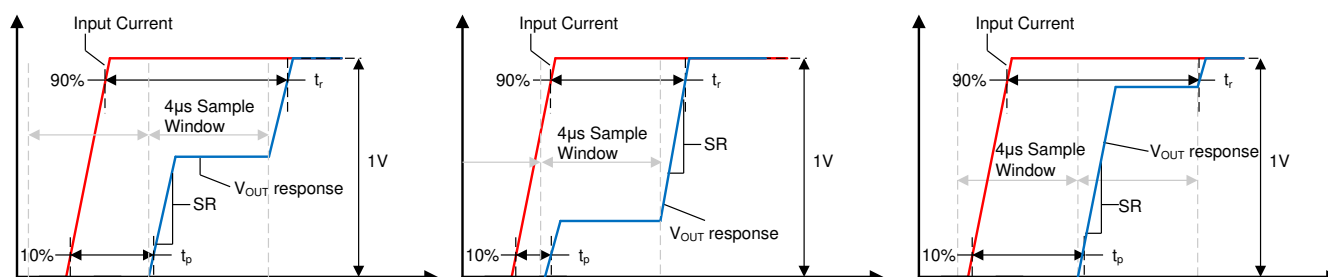

图 8-3. Small Current Input Step Transient Response
Slew rate (SR) is defined as the  $V_{OUT}$  rate of change for a single integration step's output transition, as shown in 图 8-3. Because the device often requires two sampling windows to reach a full 90% settling of its final value, this slew rate is not equal to the 10%-90% transition time for the full output swing.
Propagation delay is the time period between the input current waveform reaching 10% of its final value and  $V_{OUT}$  reaching 10% of its final value. This propagation delay is heavily dependent upon the alignment of the input current step and the sampling period of the TMCS1100-Q1, as shown for several different sampling window cases in 图 8-3.
Response time is the time period between the input current reaching 90% of its final value and the output reaching 90% of its final value, for an input current step sufficient to cause a 1-V transition on the output. 图 8-3 shows the response time of the TMCS1100-Q1 under three different time cases. Unless a step input occurs directly during the beginning of one sampling window the response time will include two sampling intervals.